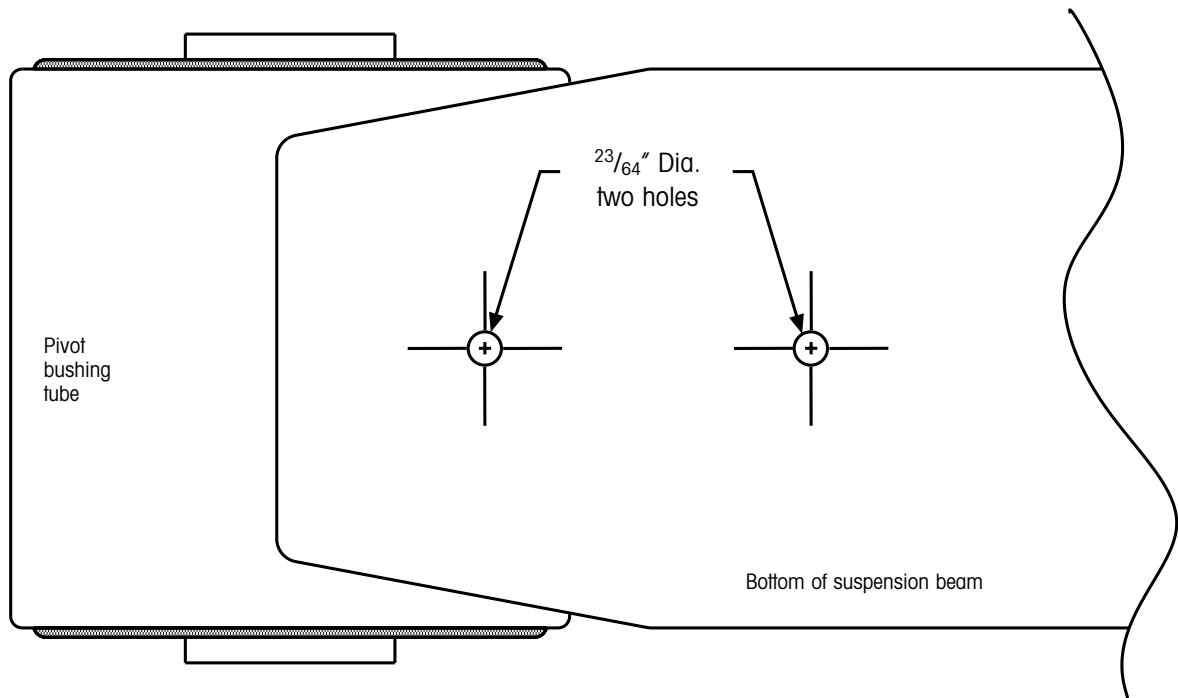
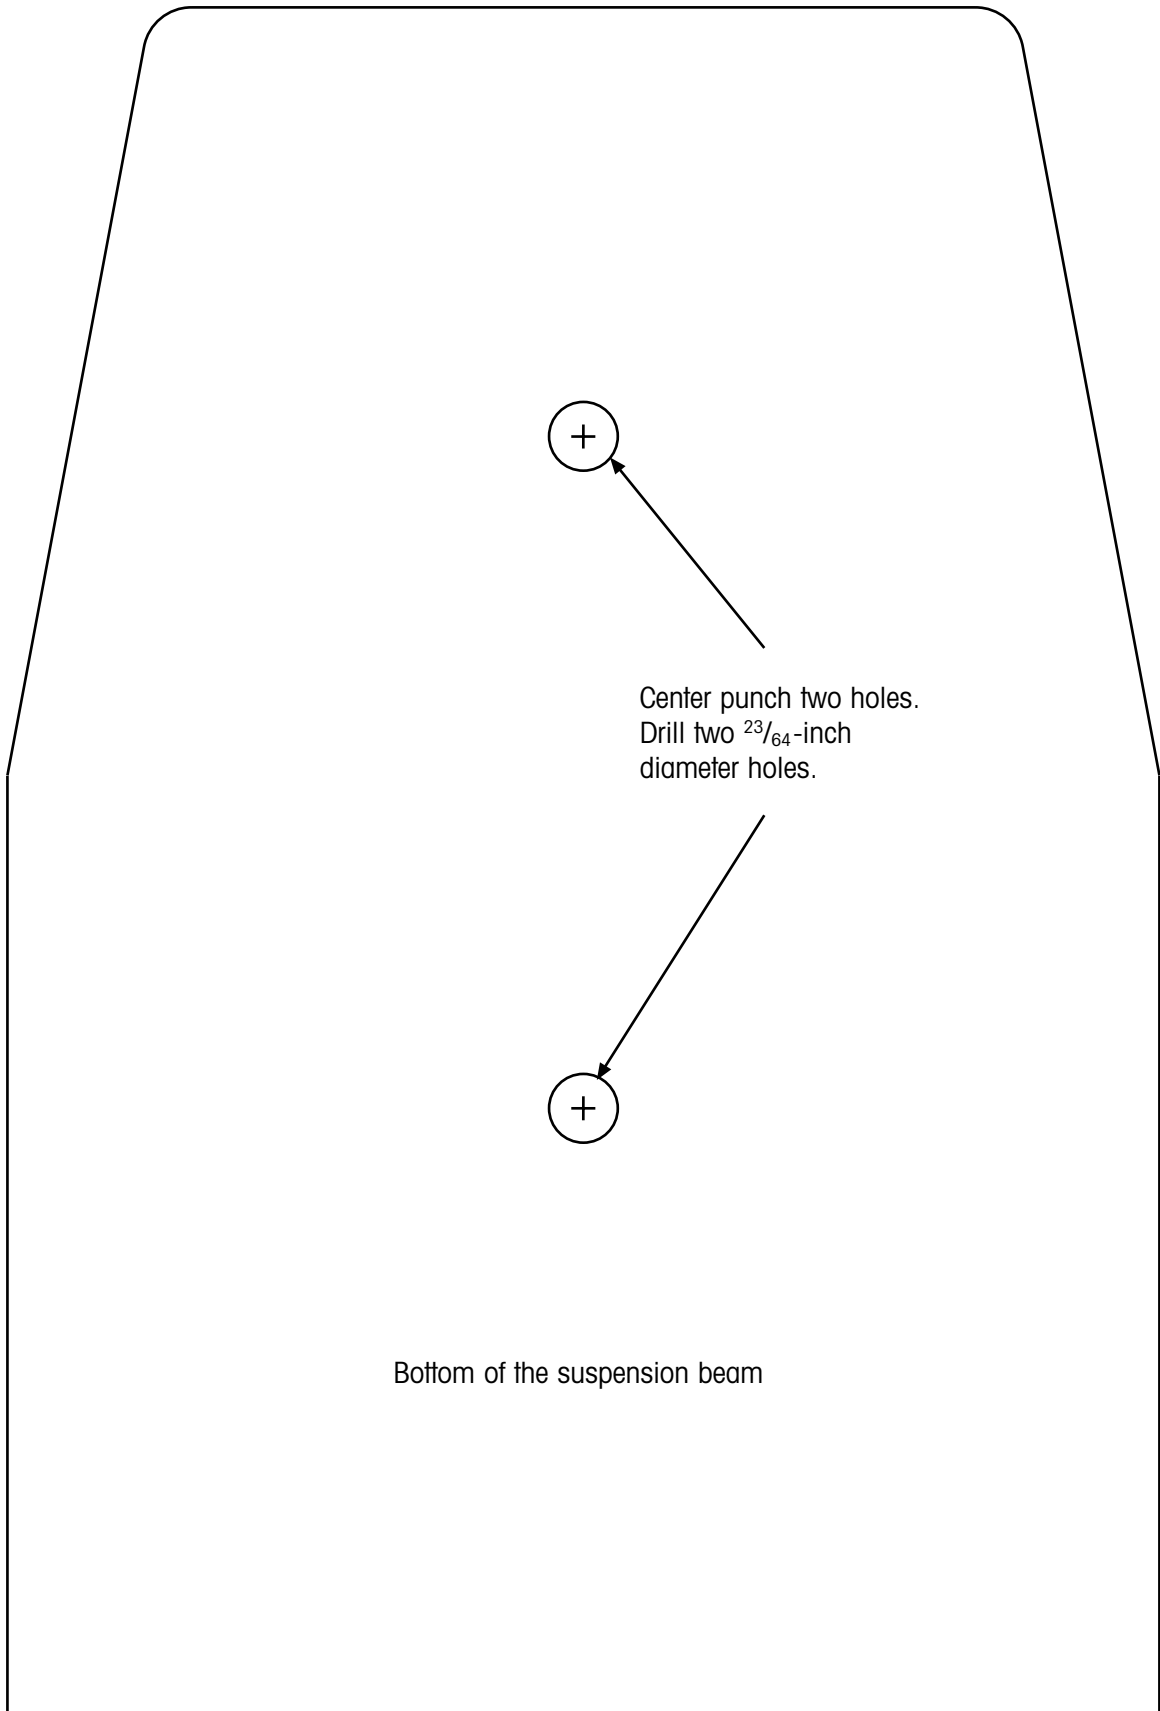

Figure 1. Positioning template(s) on the bottom of the suspension beam
Figure 7. Hole template for placement of the lift bracket
1. Position the template (Figure 7 on page 7) on the bottom of the suspension beam (Figure 1). Tape the template into place.
**IMPORTANT: USE** only the template (Figure 7) provided for the retrofit installation. **DO NOT USE** photocopies of the template. Photocopies do not allow accurate positioning of the indicated holes and may result in improper installation of the lift bracket.